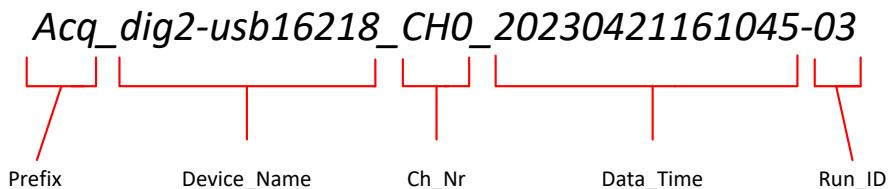

Fig. 23.3: Example of the output file name in case of *One file per Channel* setting
- *Multi-Board single file* (available only in synchronized multi-board acquisition): A unique file is generated, containing the data of all the boards in the system ordered by event number. The name of this file contains an additional and fixed prefix (Fig. 23.3).